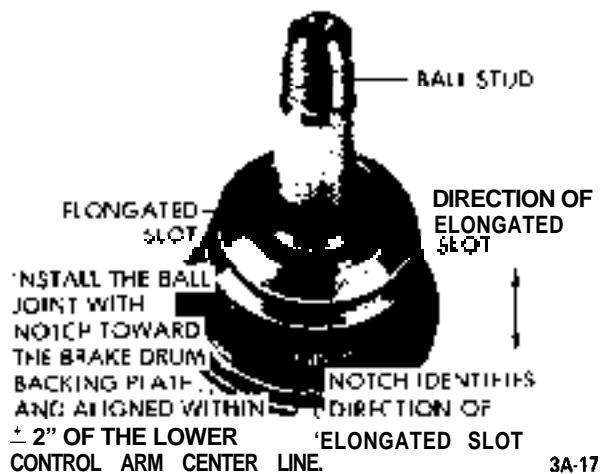

Figure 3A-17 Lower Ball Joint Notch - GT
3. Remove cotter pin from castle nut on ball joint stud and back off castle nut two (2) turns. Hit ball stud a sharp blow to break it loose. DO NOT REMOVE NUT.
4. Install spring compressor (J-21689) and compress spring until a distance of 3-1/8" is achieved between spring compressor and lower spring leaf. See Figure 3A-16.